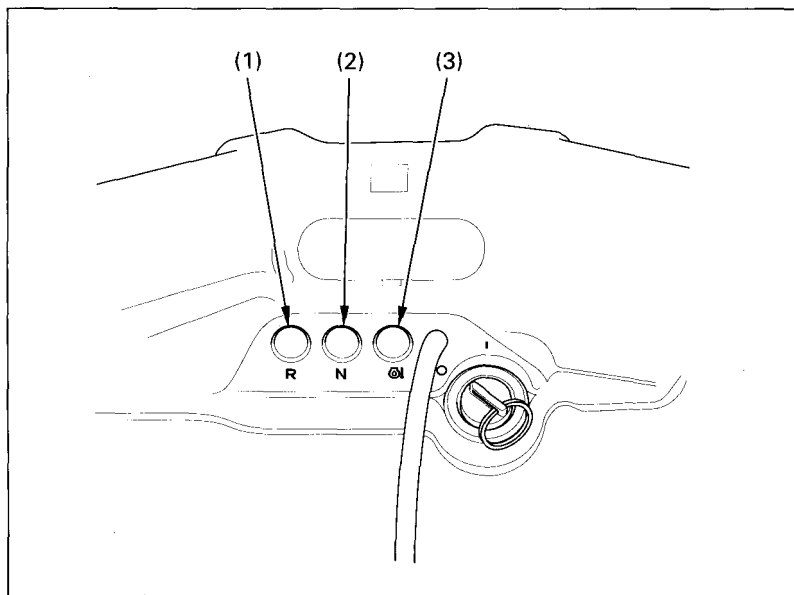

Fig. 2-14 (1) Reverse indicator lamp (3) Oil high temperature indicator lamp
If the engine oil gets too hot, the oil high temperature indicator lamp (Fig. 2-14) will light.
The reverse indicator lamp (1) and the neutral indicator lamp (2) (Fig. 2-14) are next to the ignition switch.